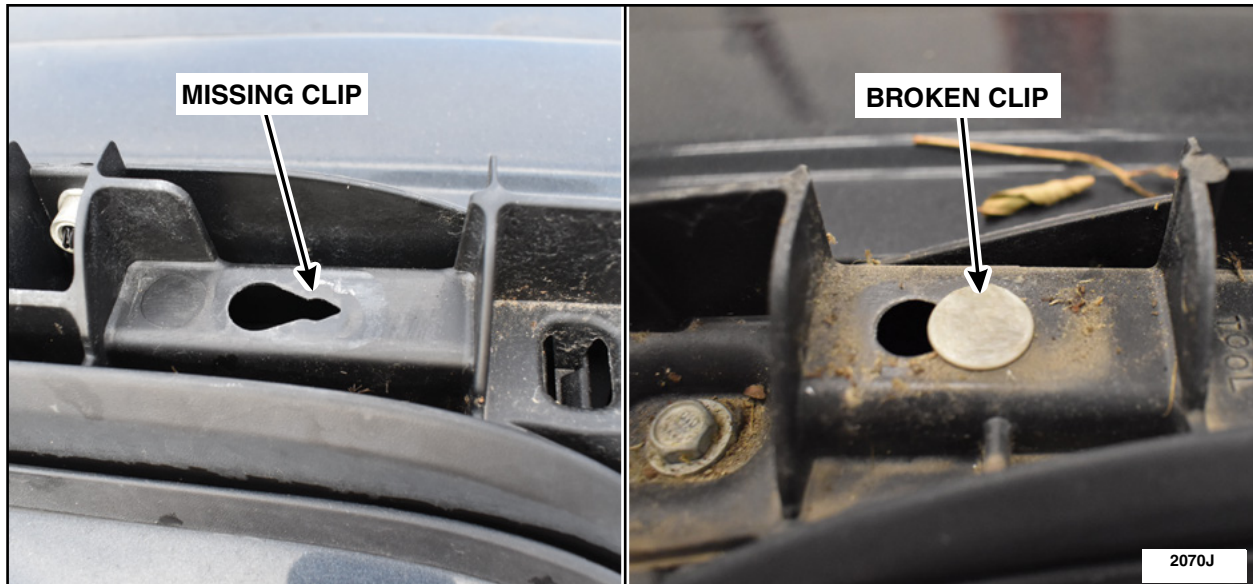

FIGURE 6
6. Replace any missing or broken roof rail retaining clips. See Figure 6.